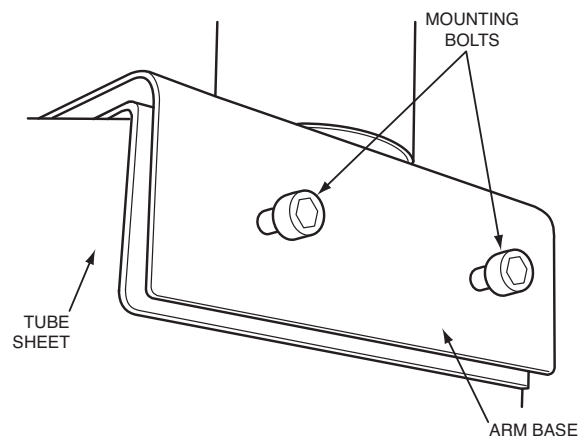

Fig. 1 — Attach Arm to Tube Sheet
3. Align the arm mounting bracket to the tube sheet and tighten hex bolts using a 3/16 hex screwdriver. See Fig. 1.